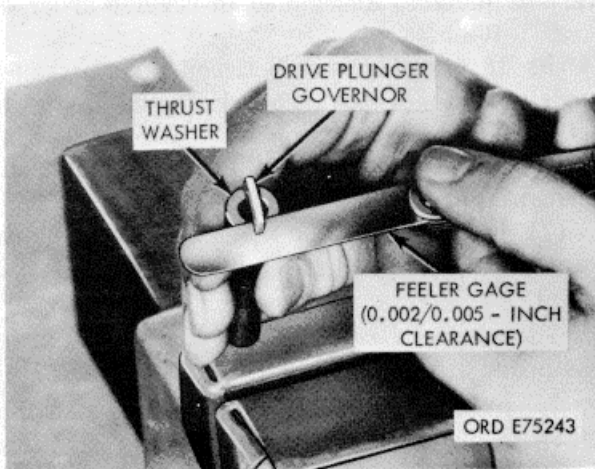

Figure 3-89. Thrust washer-drive plunger governor clearance.
(5) Insure clearance between thrust washer and drive plunger governor as shown in figure 3-89.